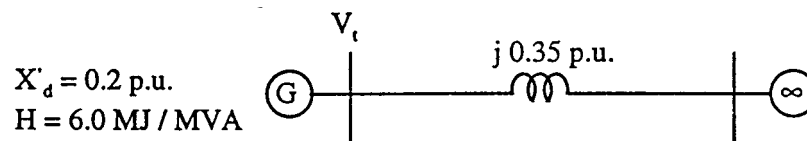

Figure 11.1
- 11.2 A 50-Hz generator is delivering 0.8 per unit real power to an infinite bus through a purely reactive network as shown in Figure 11.1. The magnitudes of both the generator terminal voltage and the infinite bus voltage are 1.0 per unit. All the per unit values are expressed using the same bases.